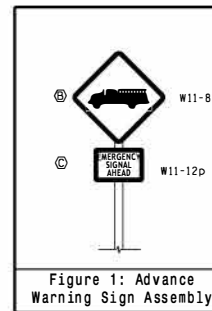

Figure 1: Advance Warning Sign Assembly
- Signs W11-8 and W11-12P (shown in Figure 1) are required and should be installed in advance of an emergency vehicle hybrid beacon based on roadway speed as recommended in the MUTCD.